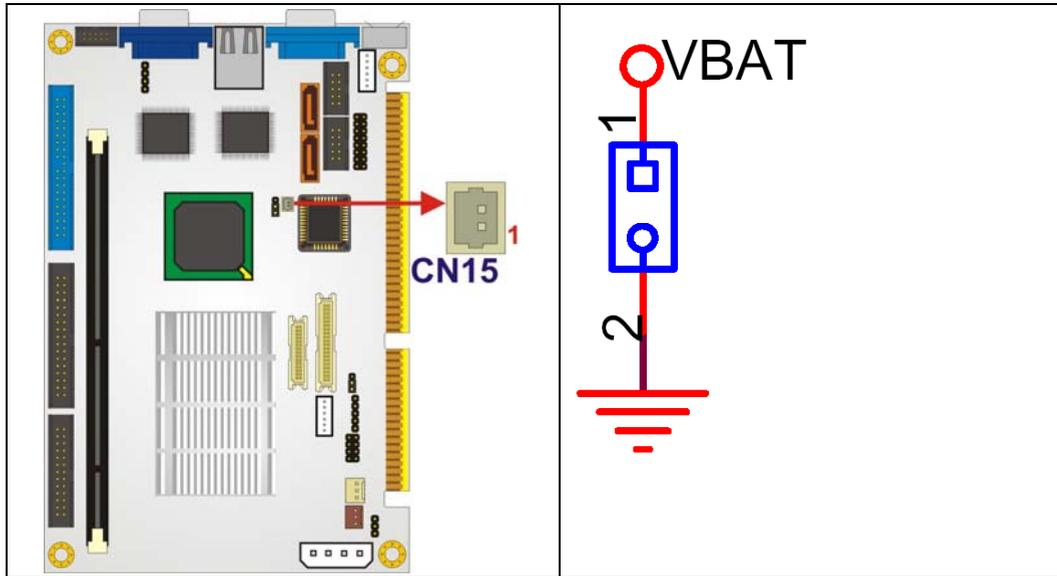

Figure 4-8: Battery Connector Location
- CN Location:** See Figure 4-8